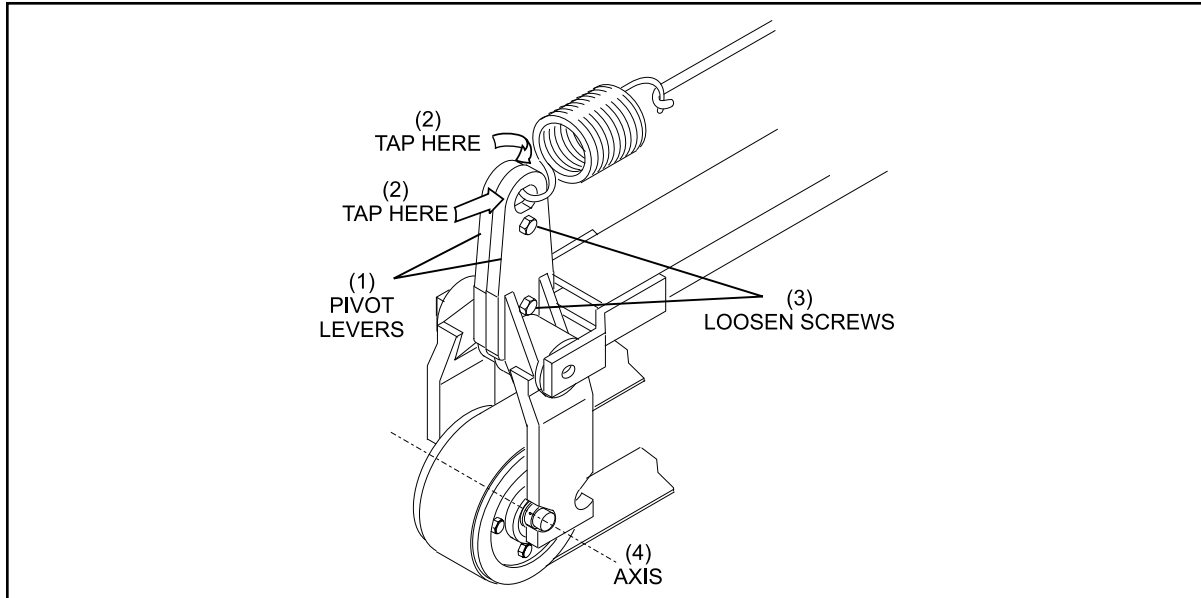

Figure 4-13. Loosen Hardware Securing Pivot Levers
- a. Using a 17 mm socket, ratchet and wrench, loosen the two screws and nuts securing the pivot levers. ONLY loosen screws enough to allow slight adjustment of pivot levers. Refer to *Figure 4-13*.